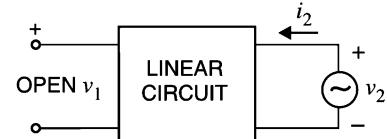

Fig. 24.3
- (ii) The other two h parameters (viz h_{12} and h_{22}) can be found by making $i_1 = 0$. This can be done by the arrangement shown in Fig. 24.3. Here, we drive the output terminals with voltage v_2 , keeping the input terminals open. With this set up, $i_1 = 0$ and the equations become :